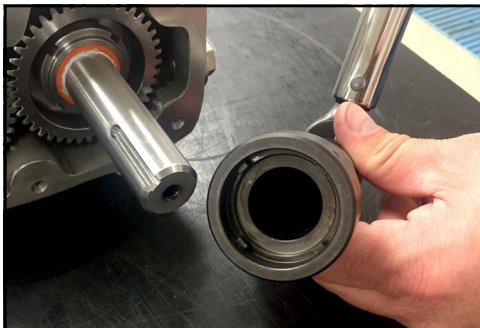

Figure 259 - Gear nut driver tool
1. Align the tabs on the socket of the gear nut driver tool (part numbers on page 151) with the indents on the locking nut as shown in Figure 259.